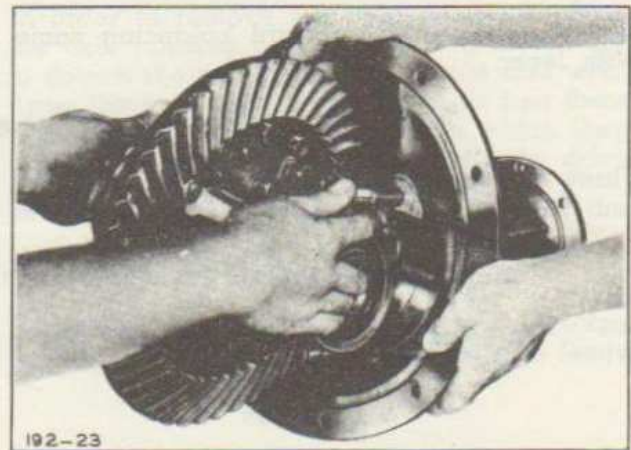

Fig. 16—Removing Differential Assembly
Remove bearing caps (7). Lift entire differential and ring gear assembly from carrier housing (8). (See Figure 16).